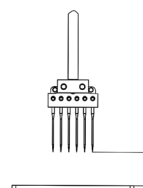

图13 (Fig.13)
- 1.当针杆上升至最高点时,调整针尖与针板面的距离为 13 ± 0.5 mm。(图13)
- 1.Needle tip should be 13 ± 0.5 mm height from Needle plate when Needle Bar mores to its top position. (Fig.13)